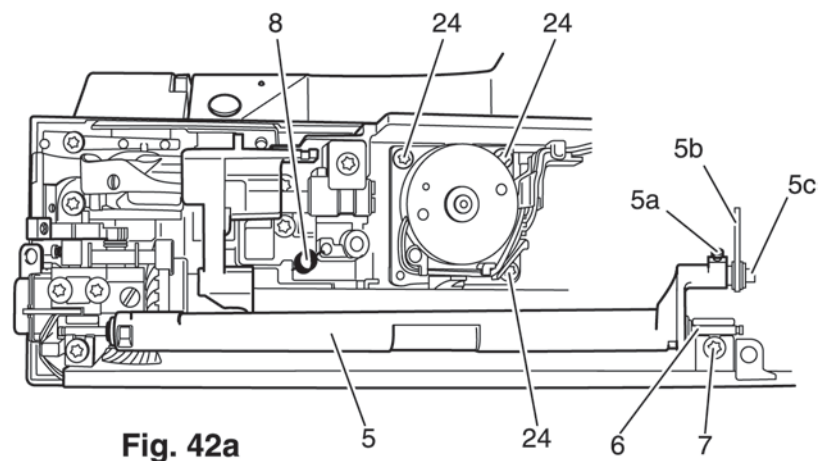

Fig. 42a
- Remove the three fastening screws 24 (fig. 42a).
- Insert and slightly tighten the three fastening screws 24 (fig. 42a).